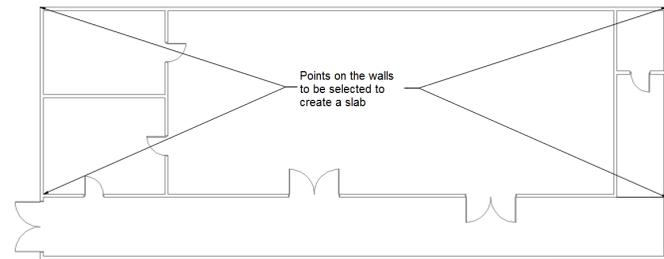

Figure 3-50 Corner points for the slab
- f. Create the stairs, refer to Figure 3-50.
Now, you need to create the slab with the specifications shown in Figure 3-50.
2. Select one of the corner points of the building displayed in Figure 3-50; you are prompted to specify the next point for the slab.
3. Select rest of the corner points as shown in Figure 3-50.